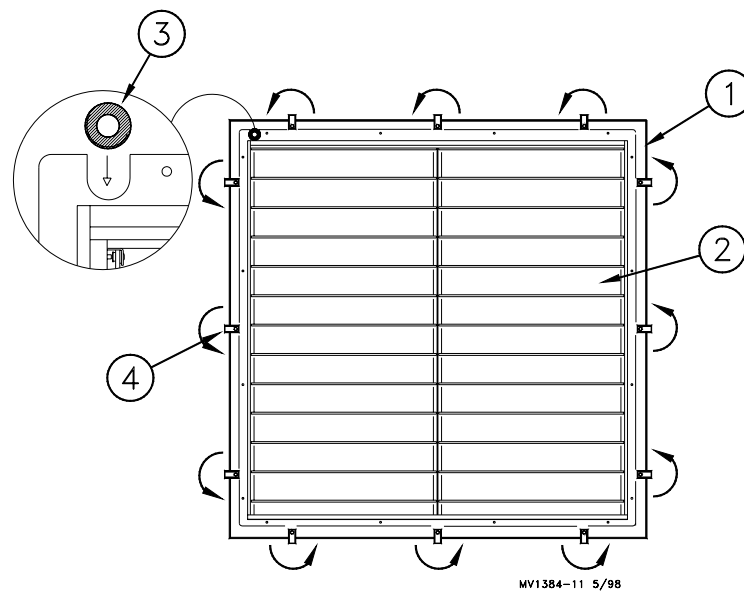

Figure 7. Shutter Installation
Note: If an Aluminum Shutter will be installed, route the motor cord through the Rubber Grommet—included in the hardware package see Figure 7.
2. If you have an Aluminum Shutter, route the electrical cord through the notch in the top of the Shutter Frame. Make sure the Grommet is installed correctly in the notch in the Shutter Frame. See Figure 7